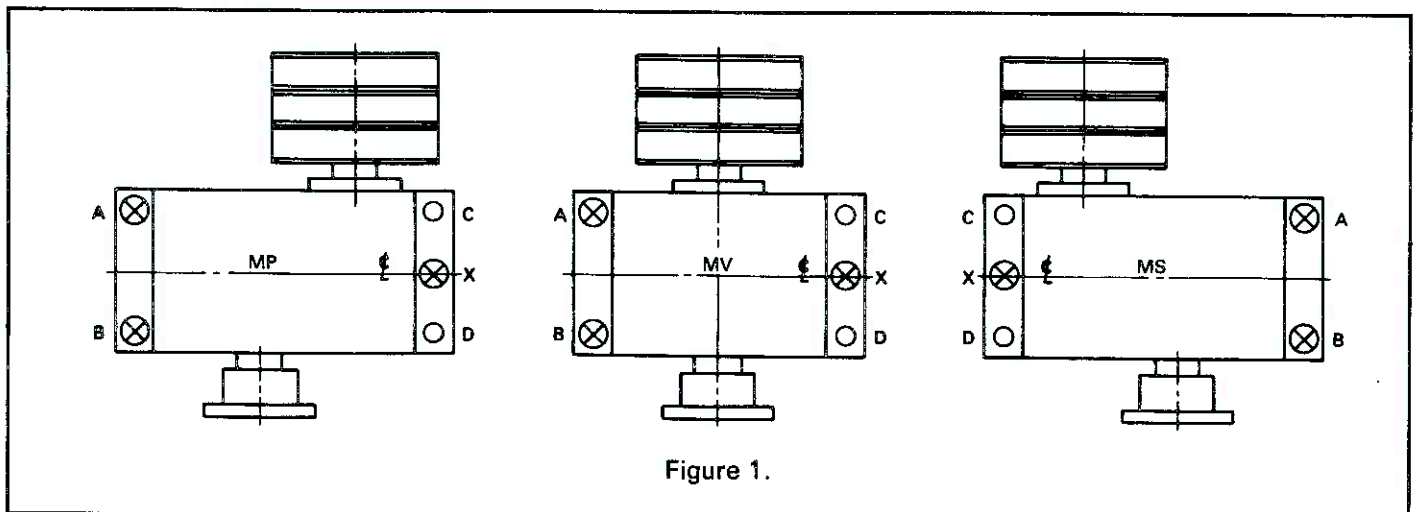

Figure 1.
2. Place unit on foundation in approximate position, using jackscrews in mounting flange or temporary shim packs at "A" and "B," and a shim pack at "X," for initial support. (See Figure 1).